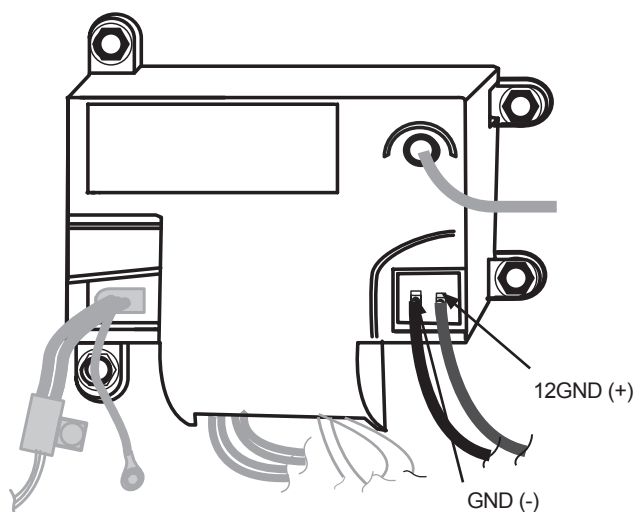

Figure 6-1. —DC power connections and polarity.
- a. + 12 volt DC (positive) is to be connected to power board terminal **12VDC**. See Figure 6-1.
- b. - 12 volt DC (negative) needs to be connected to power board terminal **GND**. See Figure 6-1.